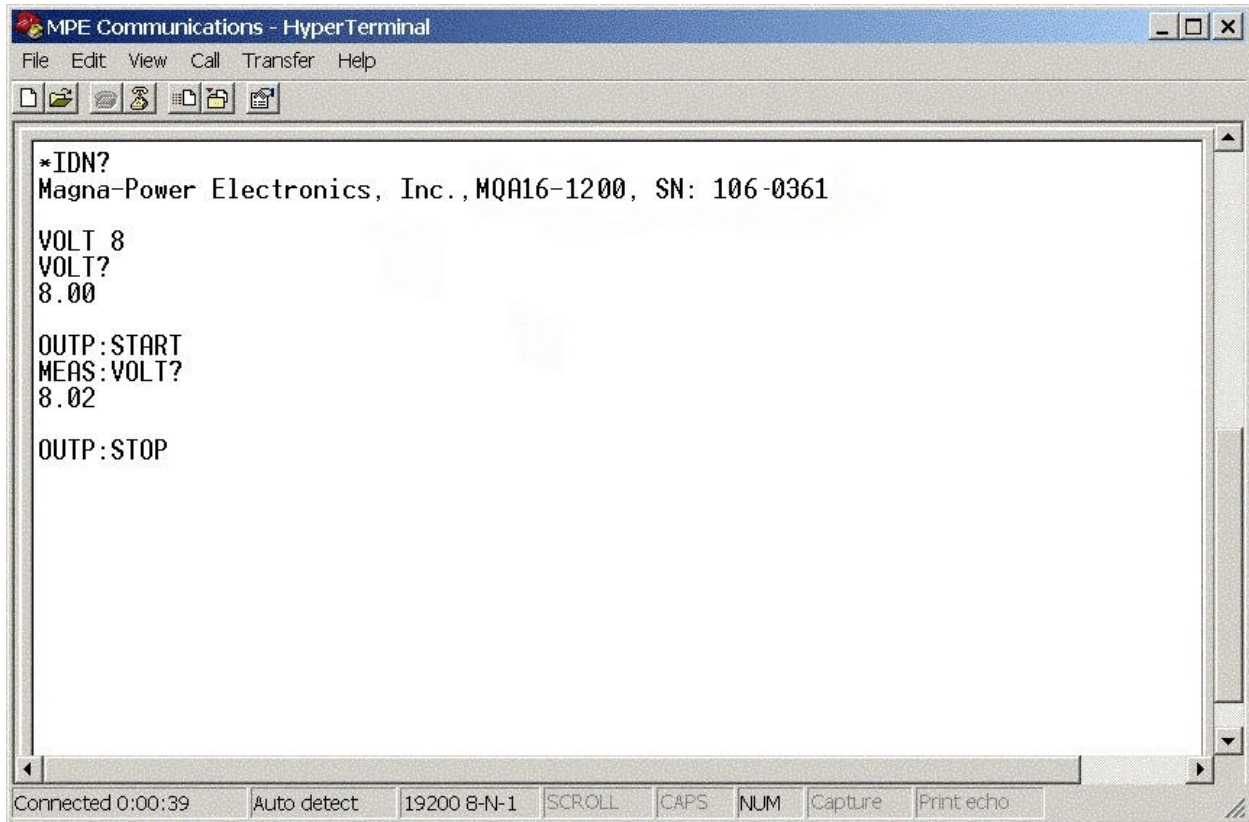

Figure 4.1 RS-232 Communications using Microsoft Windows (tm) HyperTerminal
7. As illustrated in figure 4.1, the returned data will display the following: “Magna-Power Electronics, Inc., MQA16-1200, SN: 106-0361” where the model and serial number may be different depending on the unit being tested.